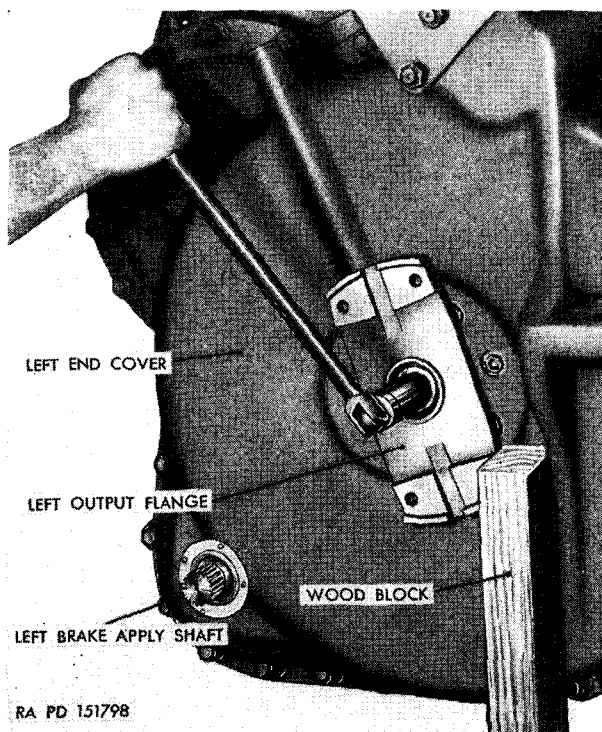

Figure 59. Loosening flange retainer nut.
- (1) Using a $\frac{1}{2}$ -inch wrench, remove the three bolts and washers from the brake-adjusting cover. Remove the brake-adjusting cover from the left end cover.
- (2) Remove the locking wire from the left-output-flange-retainer nut. Install a wooden block between the output flange and the end cover to keep the flange from rotating when a wrench is applied to the flange-retainer nut. Using a $\frac{3}{8}$ -inch socket, loosen but do not remove the flange-retainer nut (fig. 59).